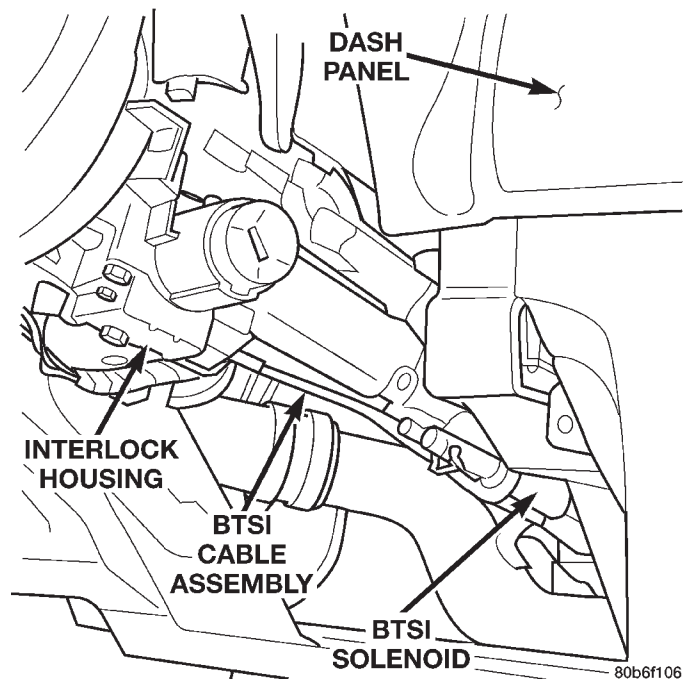

Fig. 4 BTSI Solenoid
(11) Disconnect the BTSI solenoid electrical connector (Fig. 4).
(12) Disengage BTSI cable assembly routing clip from the steering column mounting stud.
(13) Unclip the BTSI cable assembly from the retaining clip located within the wiring harness.
(14) Remove BTSI cable assembly from the dash panel.